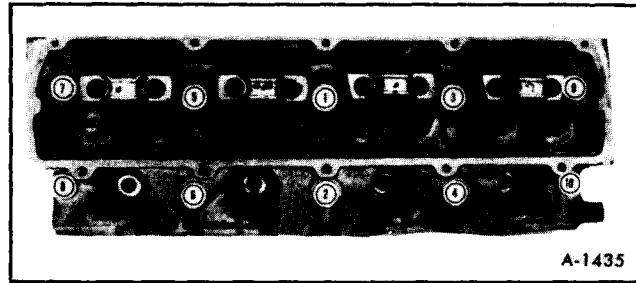

Figure 28—Cylinder Head Torque Sequence
3. Install cylinder head and torque bolts to 60 ft. lbs. in sequence as shown in Figure 28. Then re-torque in sequence to 85 ft. lbs.